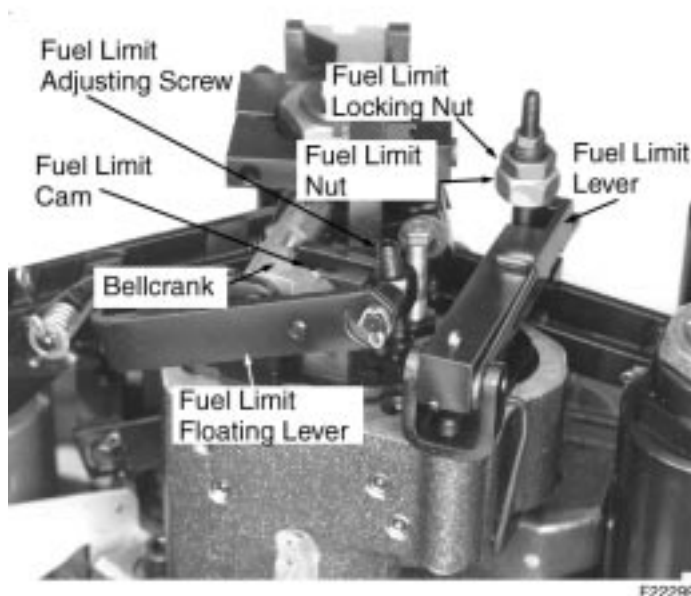

Figure 12-10. Fuel Limit Adjustments .
5. Measure and record the height of the fuel limiter cam, Figure 12-10, from a convenient reference surface.
In response to a demand for fuel, the governor pilot valve is lowered to permit governor oil to raise the power piston. The power piston upon being raised will also lift the fuel limit floating lever, Figure 12-10 on page 12A-17.